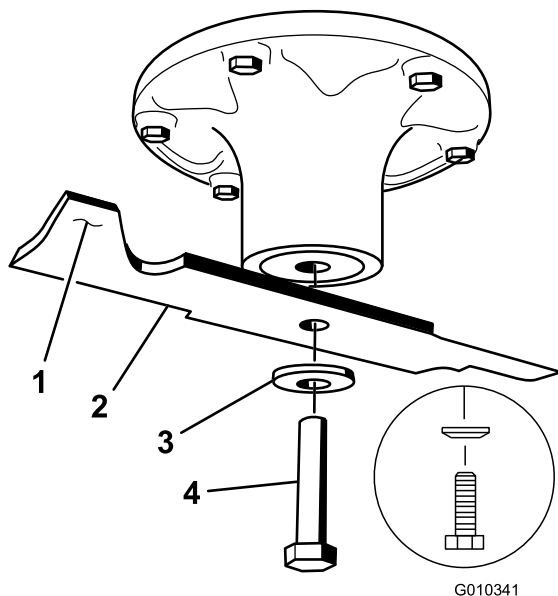
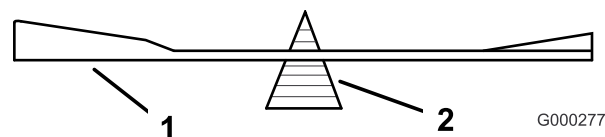

Figure 55
Figure 57
Hold the blade end using a rag or thickly-padded glove. Remove the blade bolt, curved washer, and blade from the spindle shaft (Figure 55).
2. Check the balance of the blade by putting it on a blade balancer (Figure 57). If the blade stays in a horizontal position, the blade is balanced and can be used. If the blade is not balanced, file some metal off the end of the sail area only (Figure 55). Repeat this procedure until the blade is balanced.
1. Install the blade onto the spindle shaft (Figure 55).
2. Install the spring disk and blade bolt. The spring disk cone must be installed toward the bolt head (Figure 55). Torque the blade bolt to 100-110 ft-lb (135-150 N-m).